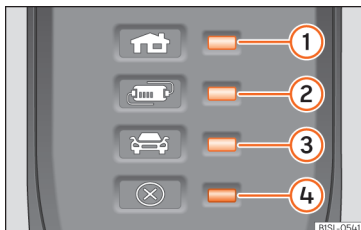

Fig. 232 On the charging cable for power sockets: Indicator lamps on the protection device.
»» Fig. 232:
The electronic protection device »» Fig. 232 ensures that the charging connector does not receive current until it is plugged in to the vehicle's charging connector.
One or more indicator lamps »» Fig. 232 ①, ② or ③ light up green. »»
Display »» Fig. 232	Meaning
If the red warning light ④ flashes or turns on without one of the indicator lamps »» Fig. 232 ①, ② or ③ also turning on continuously on the status indicator, there is a fault.